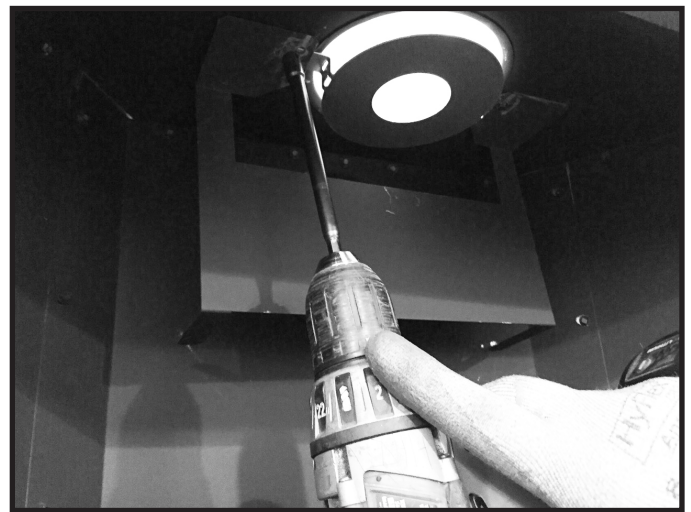

Figure 4.19 12- 30 Ft. Vertical Run
- The top vent flue baffle will be turned to install below the level of the firebox top for 12-30 ft. vertical runs of vent. See Figure 4.19.